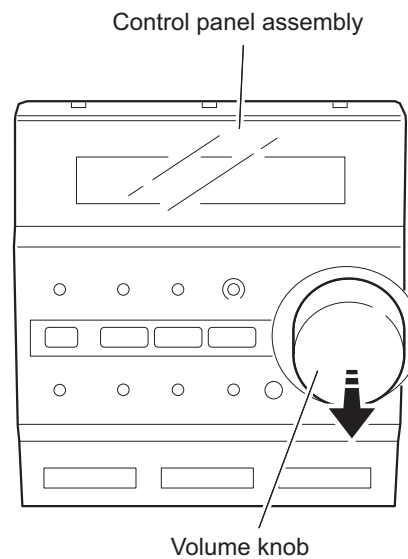

Fig.21
2.1.14 Removing the control board (See Fig.21,22)